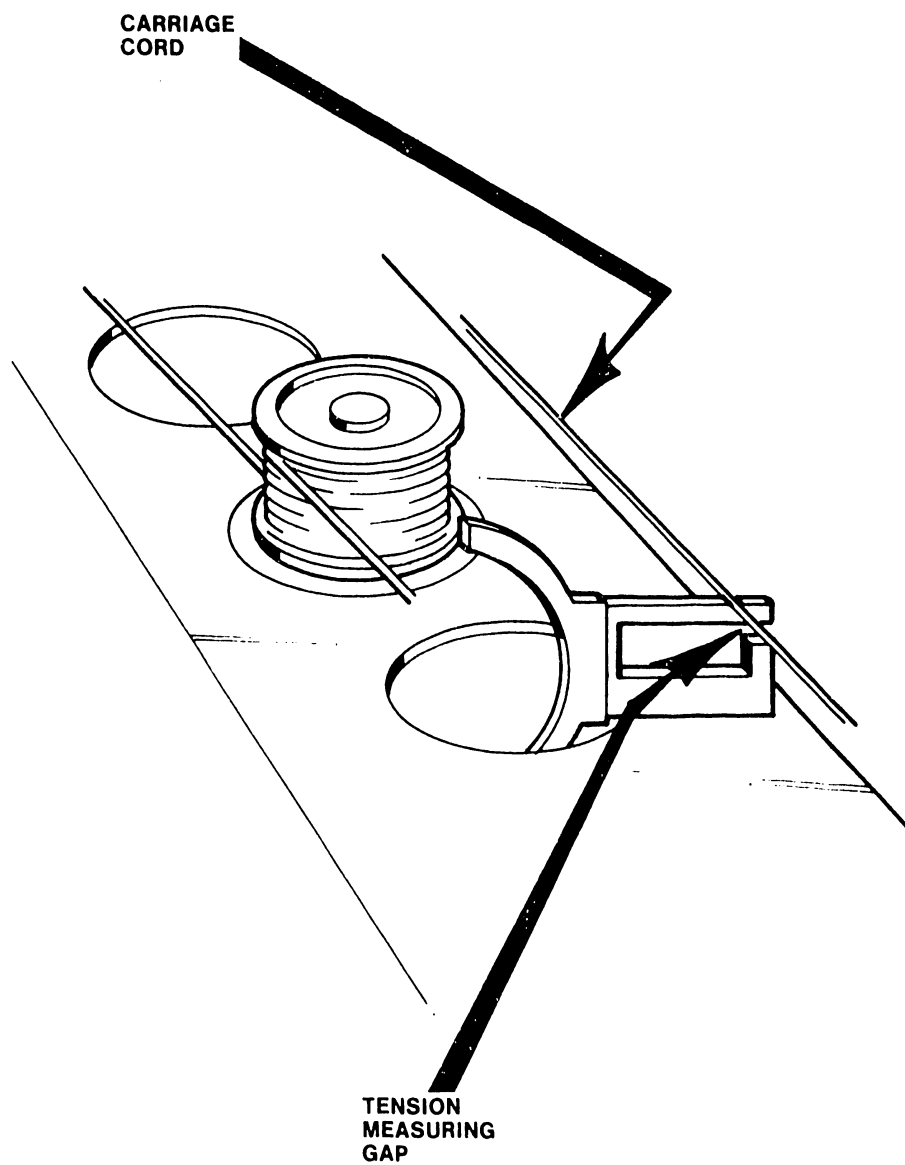

FIGURE 5-15 CORD TENSION CHECK
2. Insert adjustment tool through the right-hand hole adjacent to the motor in the printer assembly base (see Figure 5-15), and engage carriage cord in the notch on the tool upper surface. The bottom surface of the tool must be flat against the printer chassis.